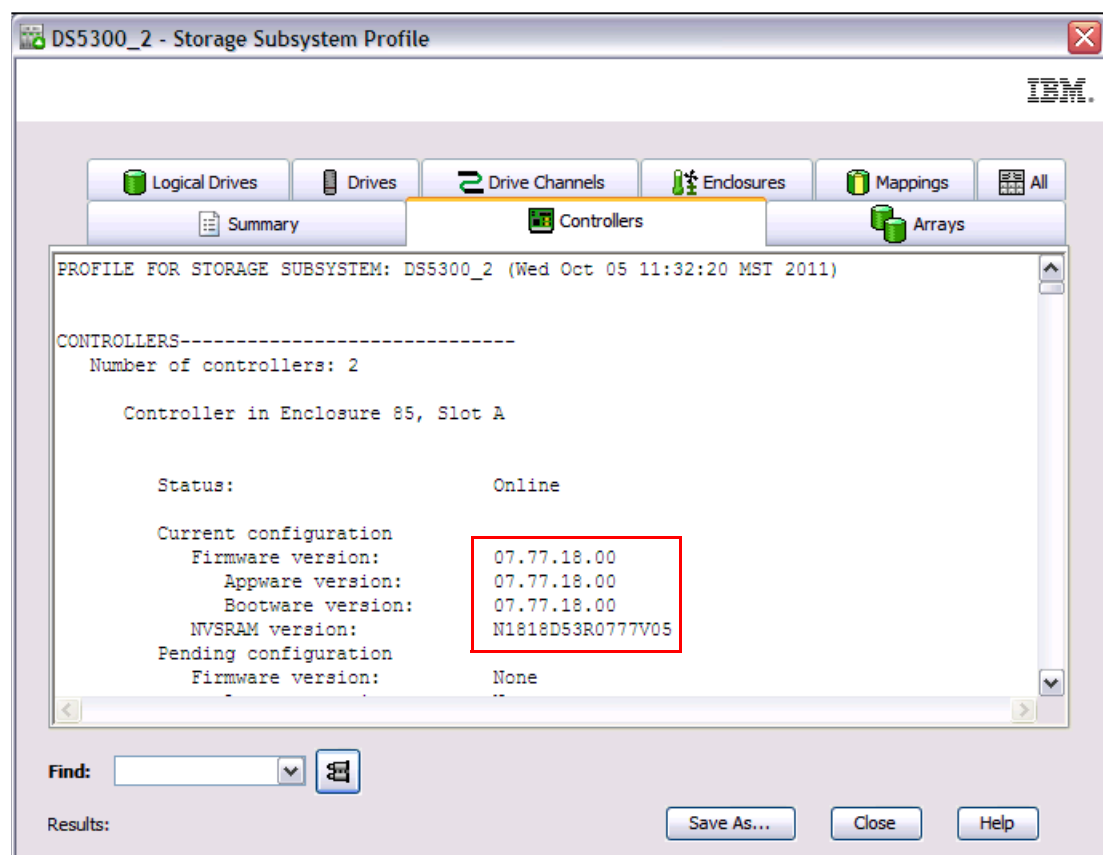

Figure 5-1 Controller and NVSRAM version in Storage Subsystem Profile
1. Click the **Controller** tab to display a window, as shown in Figure 5-1. This shows the controller firmware (CFW) and NVSRAM version installed.